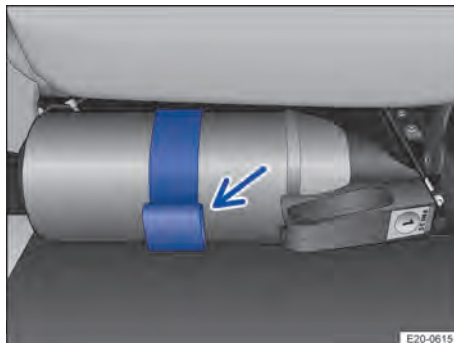

Fig. 50 Under the front passenger seat: Bracket with fire extinguisher (illustration).
1. Open the tab on the bracket and remove the fire extinguisher → Fig. 50 (arrow).